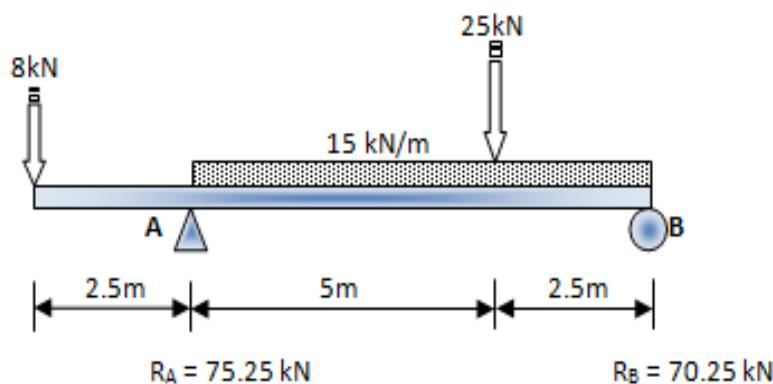

Figure B3(c) / Rajah B3(c)
- (c) Based on **Figure B3(c)** below, draw **Shear Force Diagram (SFD)** and **Bending Moment Diagram (BMD)**.